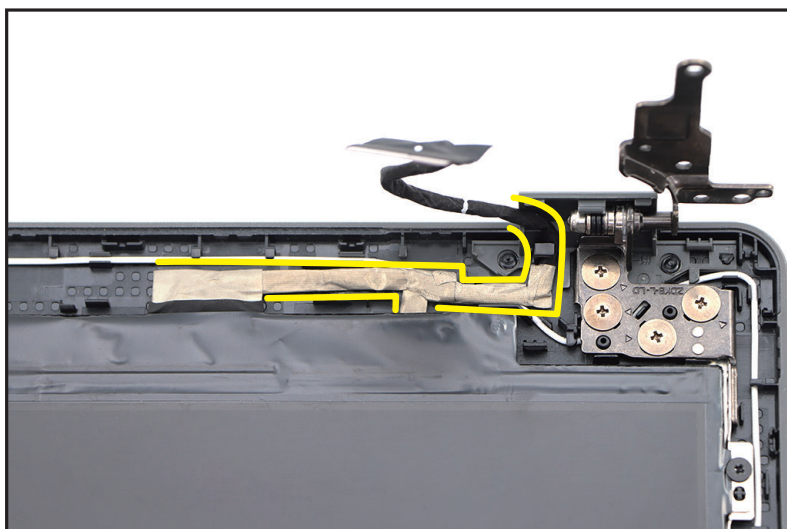

Figure 3-38. LCD Panel Removal
1. Release the LCD cable from the left hinge cap and then unrout it from the cable guides on the LCD cover as shown in Figure 3-38.